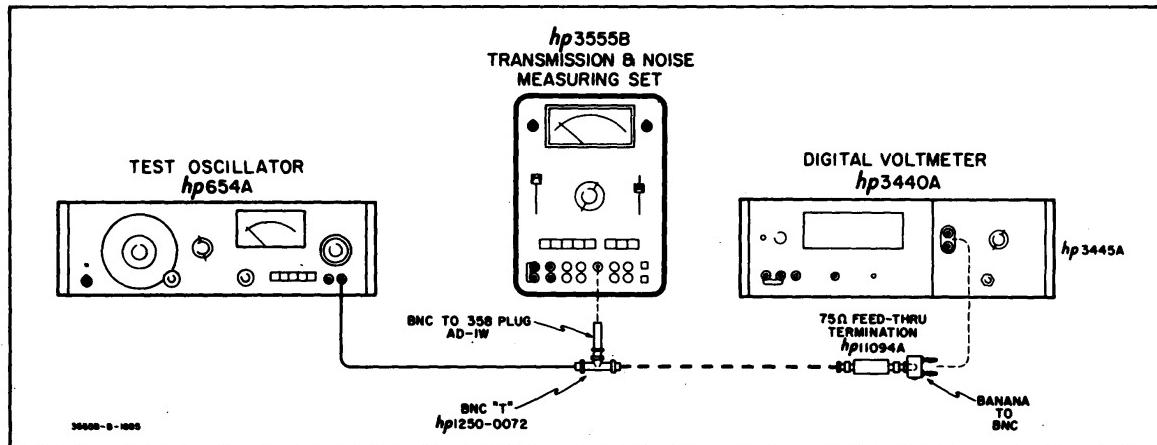

Figure 5-2. Level Accuracy Check
- Connect only the 654A and 3555B as shown in Figure 5-2 and set the 3555B controls as follows: